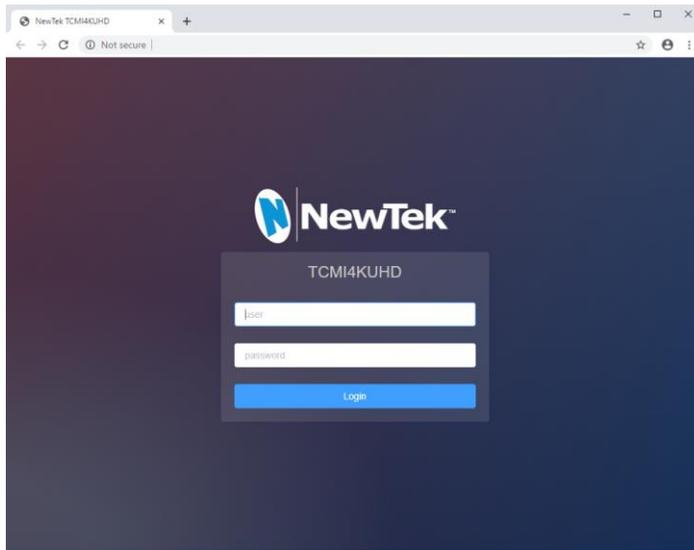

FIGURE 3
6. Log in to the webpage (Figure 3) using the default user name “admin” and password (also “admin”).